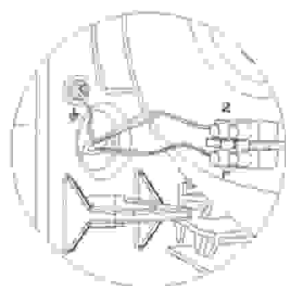

Fig.8
4. Connect the Neutral and Line (N, L) wires to the terminal block and the A/V cable to the earth connection screw (Class I) (see figure 8).